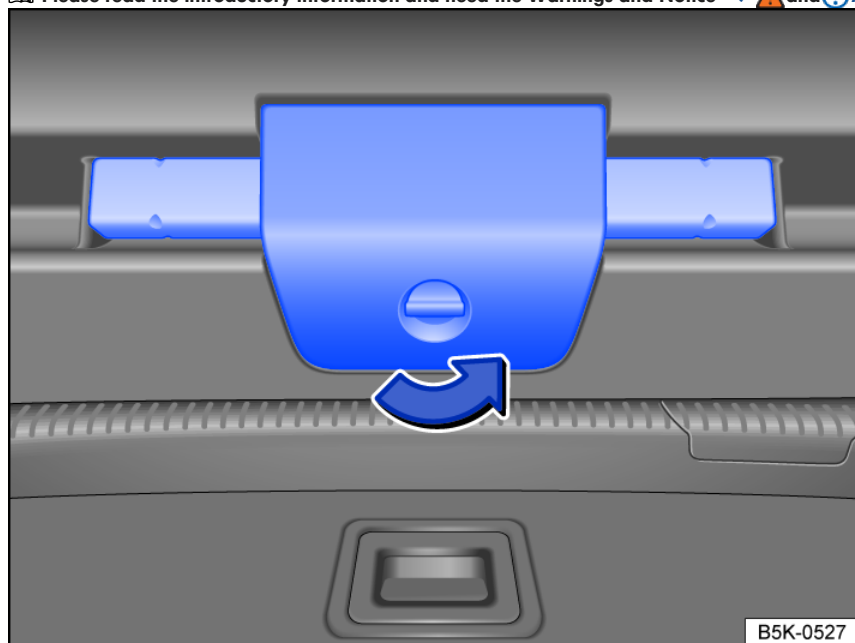

Fig. 66 In the trunk lid: open the holder for the warning triangle.
- Turn the catch of the holder for the warning triangle 90° counterclockwise fig. 66.